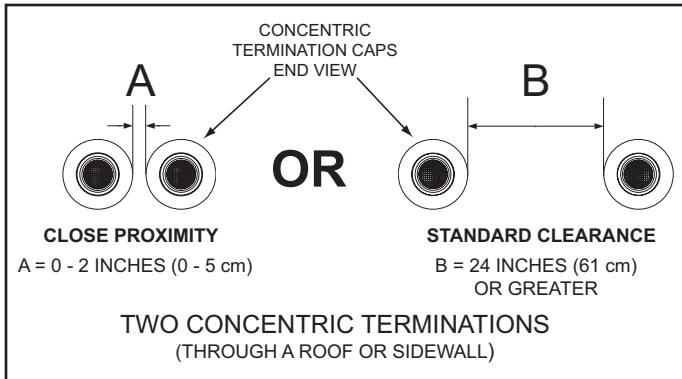
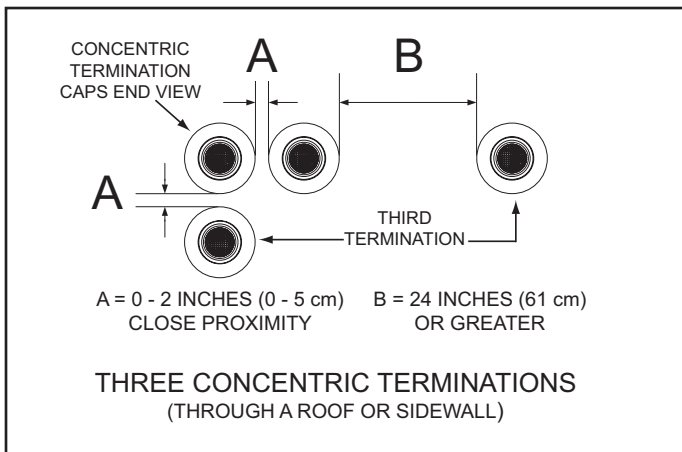
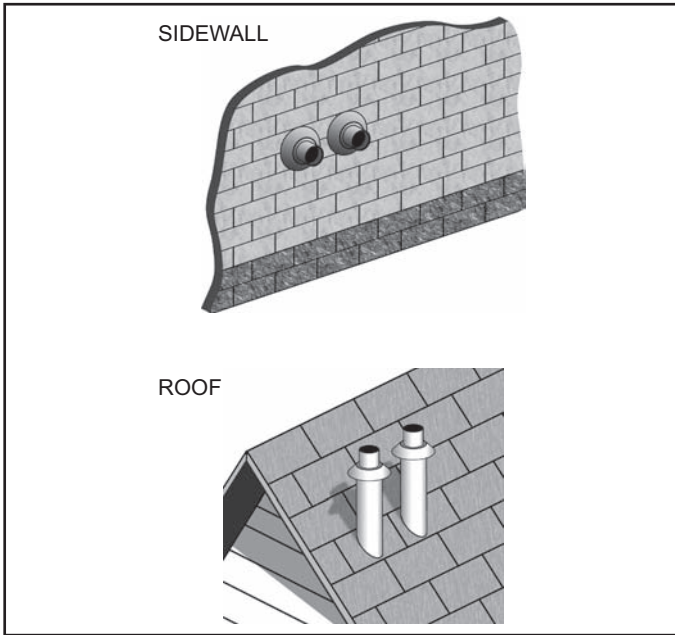

Figure 31
Figure 32
Figure 36
When installing multiple concentric terminations through a roof or through a sidewall the clearances shown in Figure 31 must be maintained.
1. The clearance between multiple termination caps must be 0 inches (touching) to a maximum of 2 inches (5 cm), dimension A - Figure 31, when installing concentric terminations in close proximity. See Figure 36 on page 31.
2. The clearance between multiple termination caps must be increased to a minimum of 24 inches (61 cm), dimension B - Figure 31, when installation in close proximity (above) is not possible. This is the standard clearance.
1. When installing three concentric terminations through a roof or through a sidewall the third termination may be installed in close proximity as indicated by dimension A in Figure 32.
2. If close proximity installation of the third termination is not possible the third termination may be installed as indicated by dimension B in Figure 32.
Two concentric terminations may be installed in close proximity as shown in Figure 36 or with standard clearances when this arrangement is not possible. See Figure 31 on page 30 for detailed information on clearances. See Figure 32 on page 30 when installing three concentric terminations.